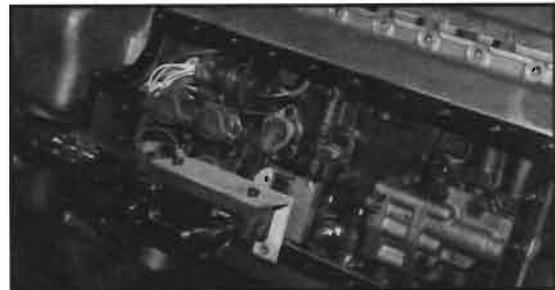
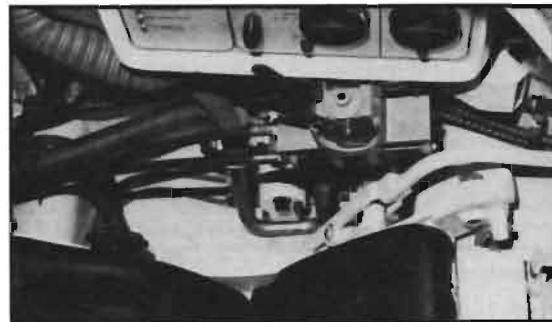

Fig 2. Mechanical transmission shifter assembly
Fig 3 Two-lever control box at driver's station actuates cable links to engine.
- A mechanical transmission shifter (Fig 2).
- A two-lever control box (Fig 3).
cal control on the transmission (Fig 2) does not interfere with the electrical functioning of the valve body. A disconnect device in the mechanical arrangement separates the mechanical control from the electronic system. The result was a tripping mechanism with four positions: drive, reverse, neutral, and unlock. The tripping mechanism raises the check balls in each solenoid in the required combinations.
The two-lever control box (Fig 3), used in conjunction with a manual flow and manual transmission shifter (Fig 2), permits control of both fuel flow and transmission shifting without electrical power. The interlocking device prohibits increasing fuel flow above the 72-horsepower limit under PM-III conditions unless the driver places the transmission into a drive gear. Conversely, the transmission may not be taken out of a drive gear unless the fuel flow rate is returned to the corresponding 72 hp. During combat operations, the driver can accomplish this.
In the second example (Fig. 2), a different set of circumstances exists. The Blue Force in zone appears to be arrayed with two company teams forward and one team in depth, approximately 3,000 meters to the rear. The terrain offers multiple MRB routes throughout the zone. The regiment is the main attack force of the division's second echelon MRR, which will be deployed around the first regiment and under its covering fires after the regiment has achieved its objective of the day.
A third example (Fig. 3), denies the maneuver freedom discussed in examples 1 and 2. A narrow defilade, such as a mountain pass, restricts movement to one MRB at a time. The Blue Force is deployed in depth throughout the defilade. The OPFOR regiment is a forward element of the division in a divisional advance to contact. A main and supporting attack has not yet been designated. The division is advancing initially with two regiments forward on separate axes, and two regiments in the second echelon.